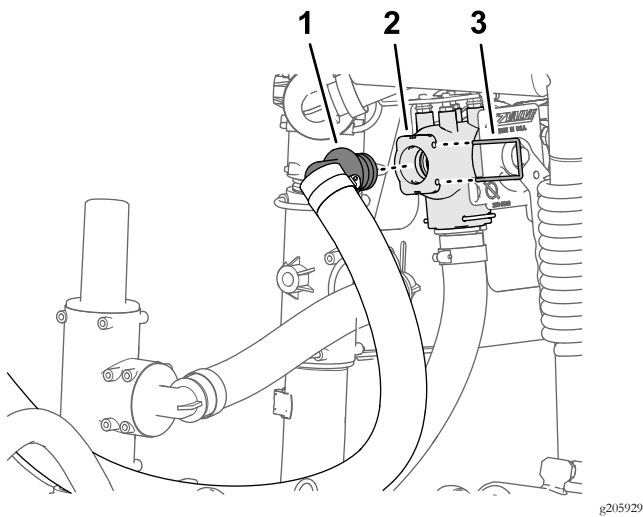

Figure 32
3. Assemble the 90° barbed fitting of eductor supply hose into the open port of the eductor shutoff valve (Figure 32).
4. Secure the barbed fitting to the shutoff valve with a retainer (Figure 32).